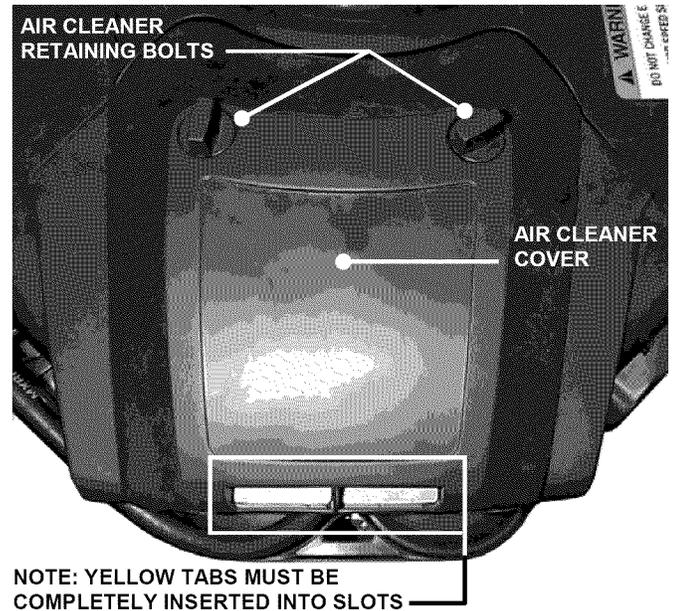

FIGURE 3.4
- 20 Hp Engines:** Change air filter. Remove bolts that secure air cleaner cover. See Figure 3.4. **IMPORTANT:** When cover is removed, you are viewing the carburetor side of the air filter, which will appear clean. Remove filter and pre-cleaner for inspection.